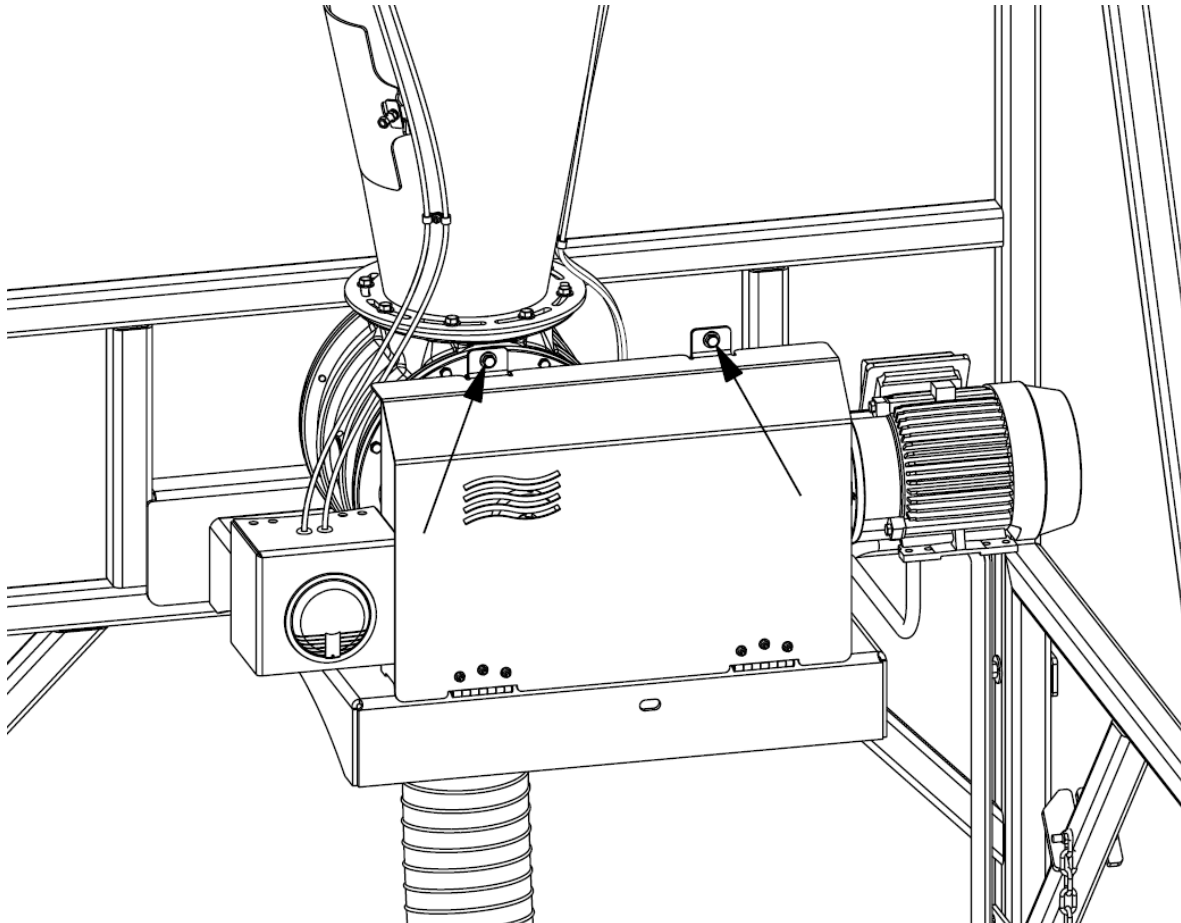

Figure 7-3: Chain guard fasteners
3. Remove the fasteners securing the chain drive cover and open the guard, refer to **Figure 7-3**.